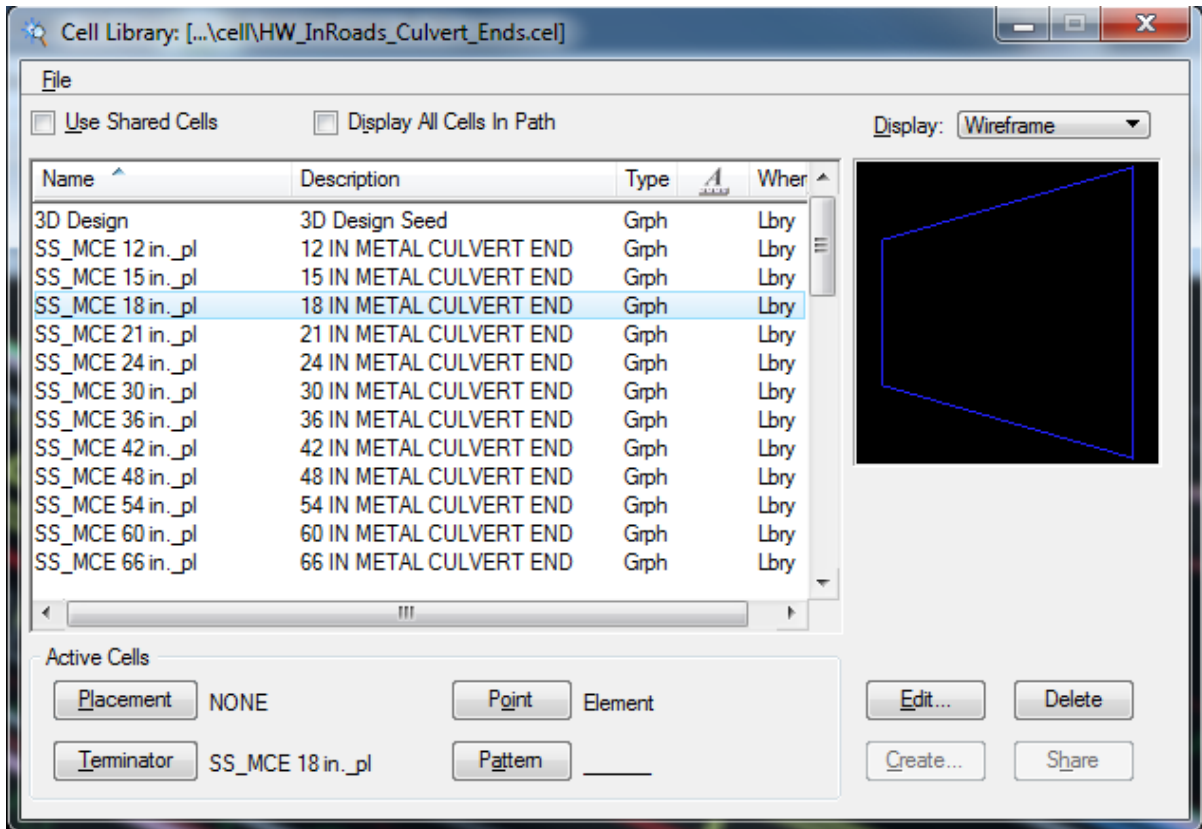

Figure 28 - Storm and Sanitary Culvert End Cells
2. In the library all cell names start with **SS\_** for **S**tem and **S**anitary, see Figure 28.